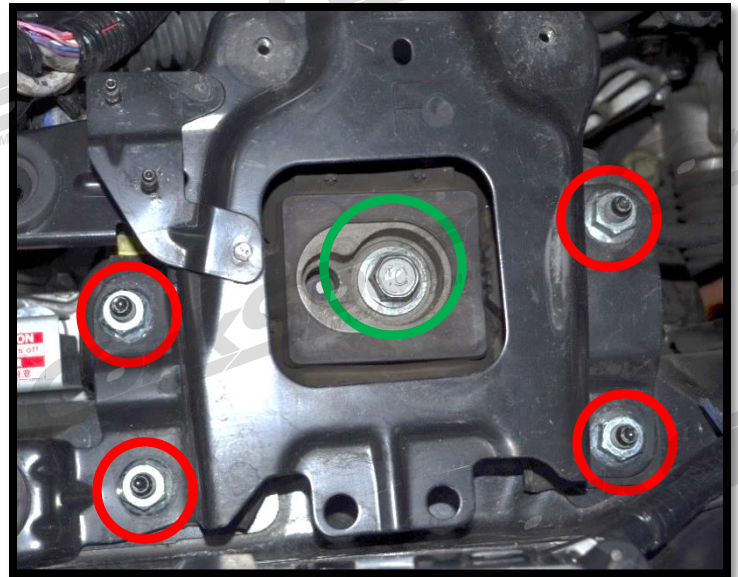

Figure 4b
- d) **Remove the 17mm bolt** and remove the transmission mount from the car (Figure 4b).
- b) Remove the four 17mm bolts found under the battery box (red circles in Figure 4b). Remove the bracket for the battery tray (this holds the transmission mount but the transmission will not fall until the large 17mm bolt in the center is loosened).
- d) Remove the 17mm bolt and remove the transmission mount from the car (green circle in Figure 4b).